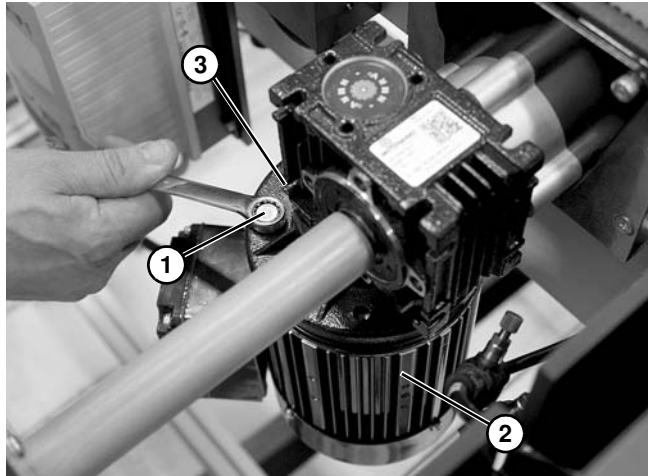

Figure 20
1. Remove hex flange screws (Figure 20, item 1) connecting the motor (Figure 20, item 2) to the gear reducer (Figure 20, item 3).